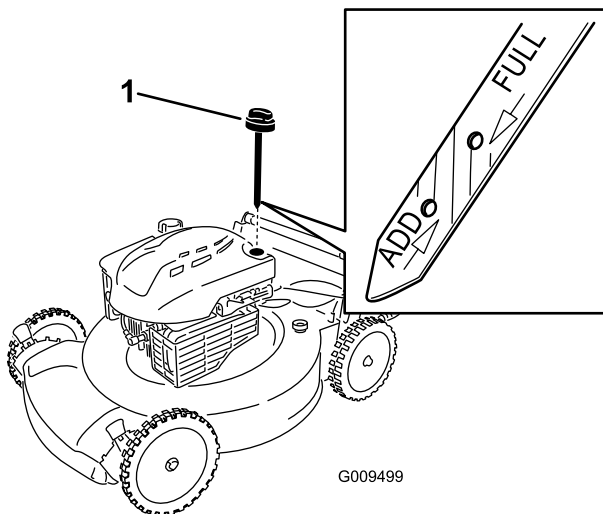

Figure 6
5. Read the oil level on the dipstick (Figure 6).
2. Remove the dipstick by rotating the cap counterclockwise and pulling it out (Figure 6).